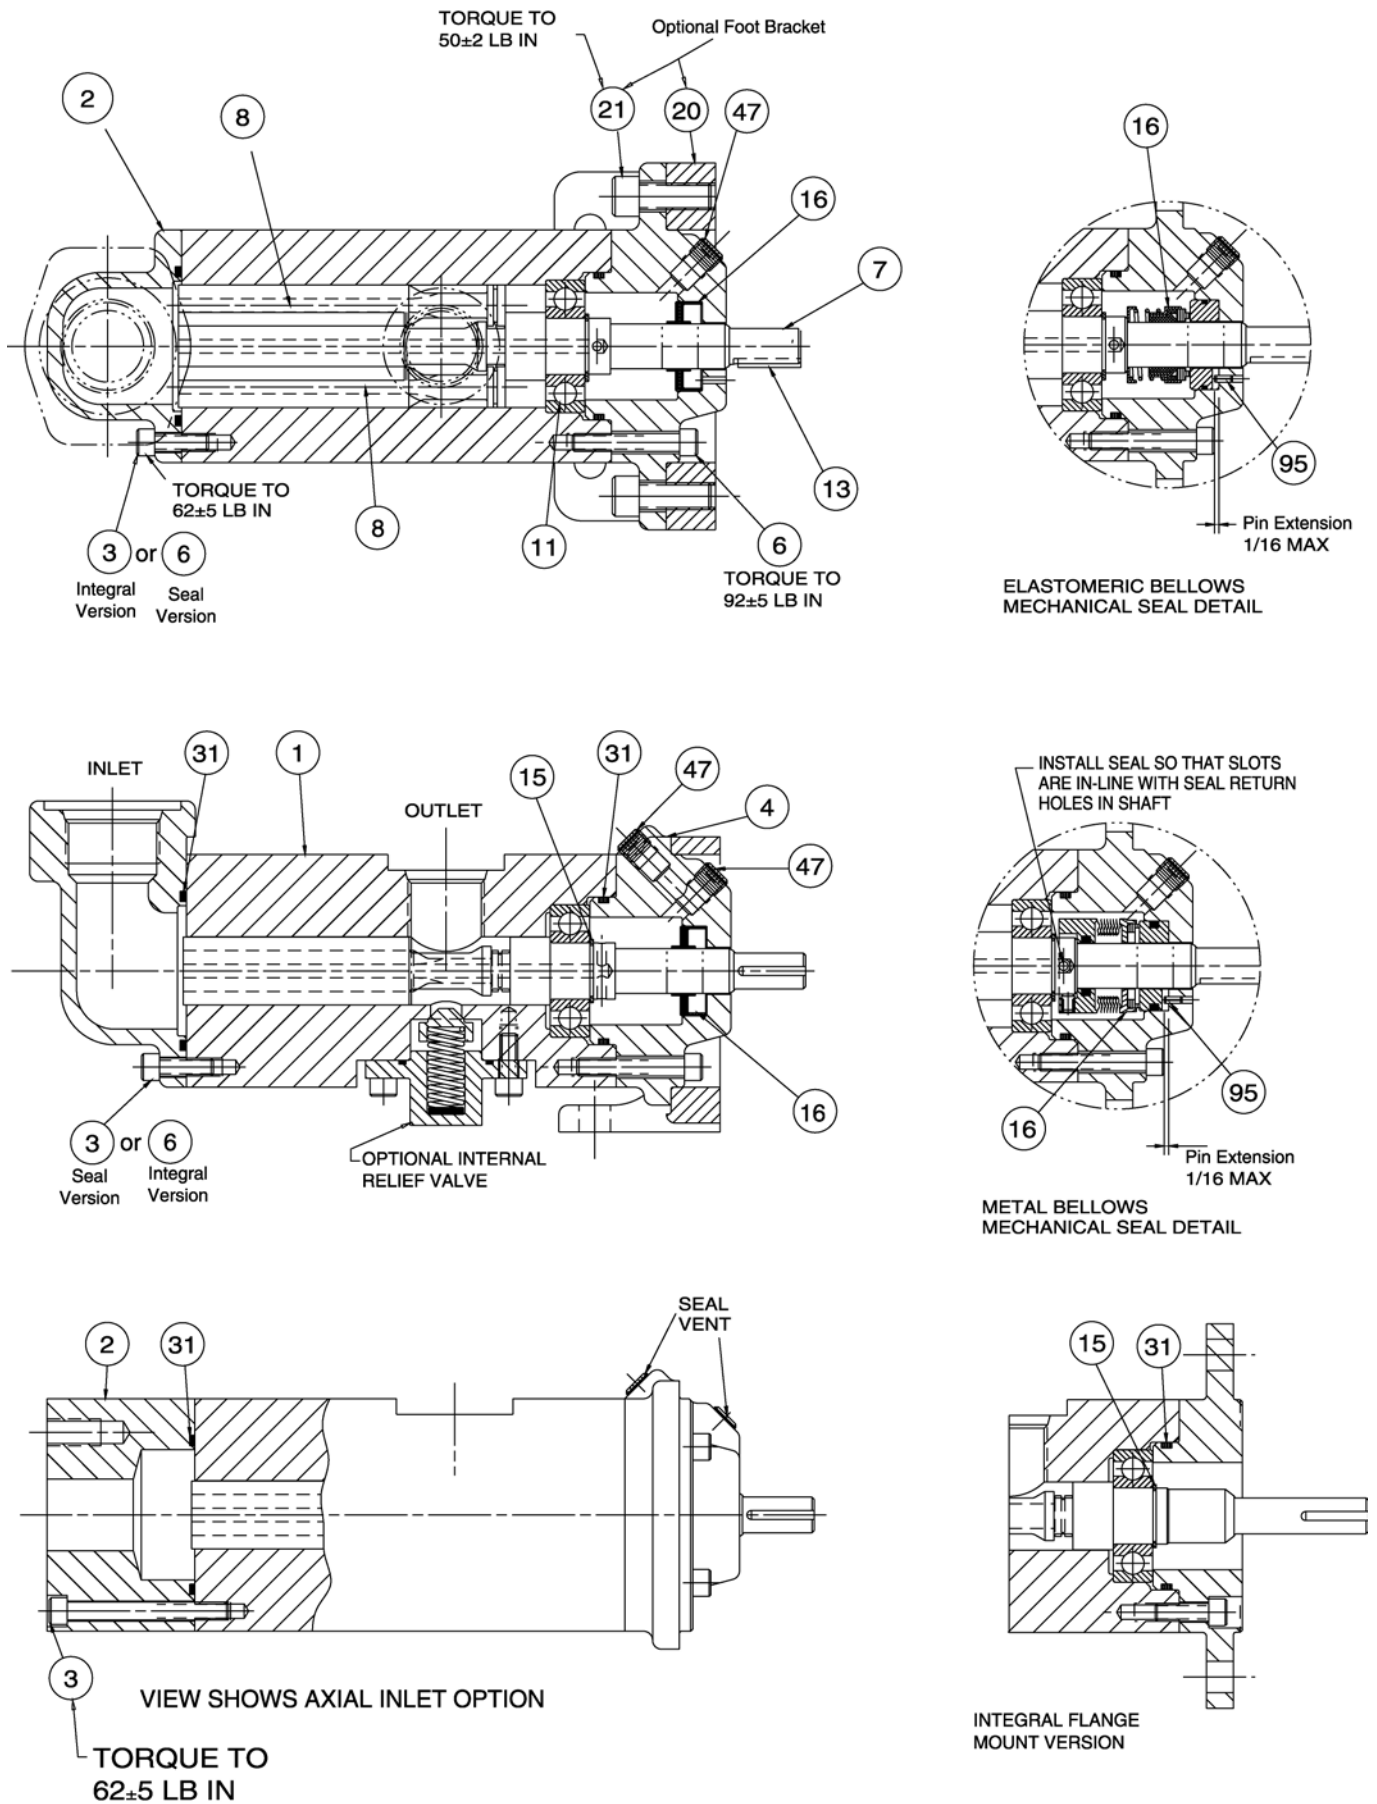

Figure 3 – AA3G-95 Iron Pump Assembly
Part number identifiers (IDPs) contained in Table 2 and shown within parenthesis such as (8) refer to circled numbers shown on the assembly drawings, Figures 3 and through 8.
- b) For Metal Bellows Type Seals (see Fig 3 below) – Loosen set screw (3F) and slide rotating assembly (3) from power rotor (7).
6. Remove inlet head (2) by removing four bolts (3 or 6).
7. Remove O-ring (31 or 26 depending on pump size) from inlet head (2).
H.5 – PUMP REASSEMBLY, SEE FIGURES 3 through 8